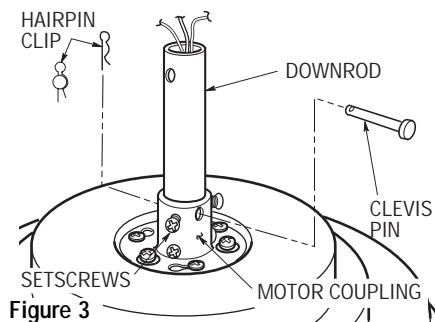

Figure 3
- 2. Unscrew the setscrew (Figure 3) until it clears the inside of the motor coupling. Then separate, untwist and unkink the three 80" motor leads. Route the motor lead wires through the downrod. Align the clevis pin holes in the downrod with the holes in the motor coupling. Install the clevis pin and secure with the hairpin clip (Figure 3). The clevis pin must go through the holes in the motor coupling and the holes in the downrod. Be sure to push the straight leg of the hairpin clip through the hole near the end of the clevis pin until the curved portion of the hairpin clip snaps around the clevis pin. The hairpin clip must be properly installed to prevent the clevis pin from working loose. Pull up on the downrod to make sure the clevis pin is properly installed.
It is critical that the clevis pin in the motor coupling is properly installed and the setscrews securely tightened. Failure to verify that the pin and setscrews are properly installed (as shown in Figure 3) could result in the fan falling.
- 3. Tighten the setscrews (Figure 3) securely while pulling up on the downrod.